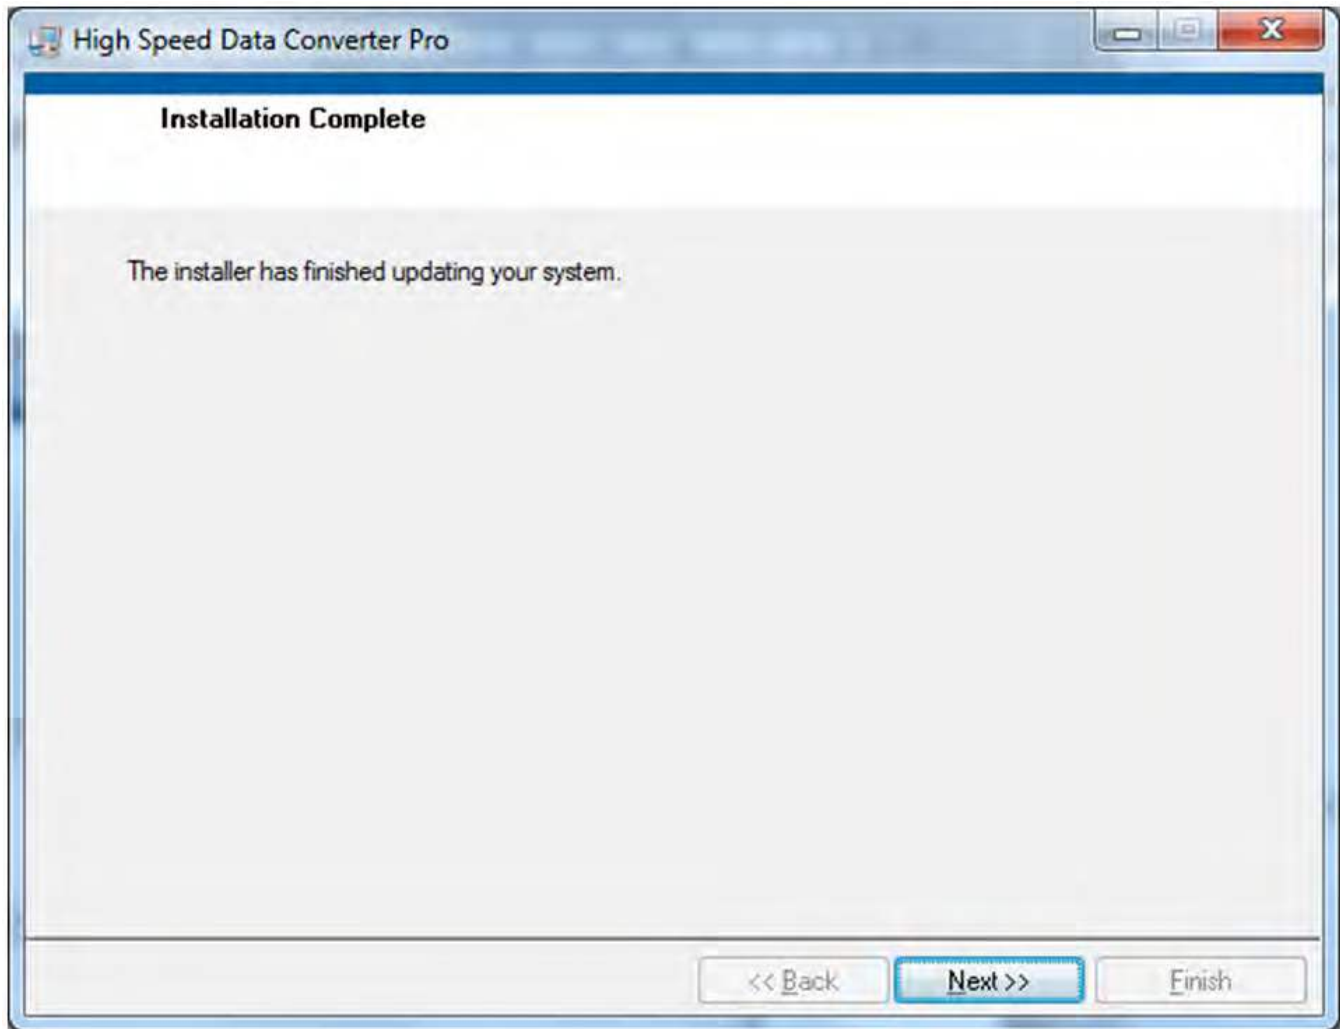

Figure 33. HSDCPro Install (Installation Complete)
- The window shown in Figure 33 appears indicating *Installation Complete*. Press the *Next* button.